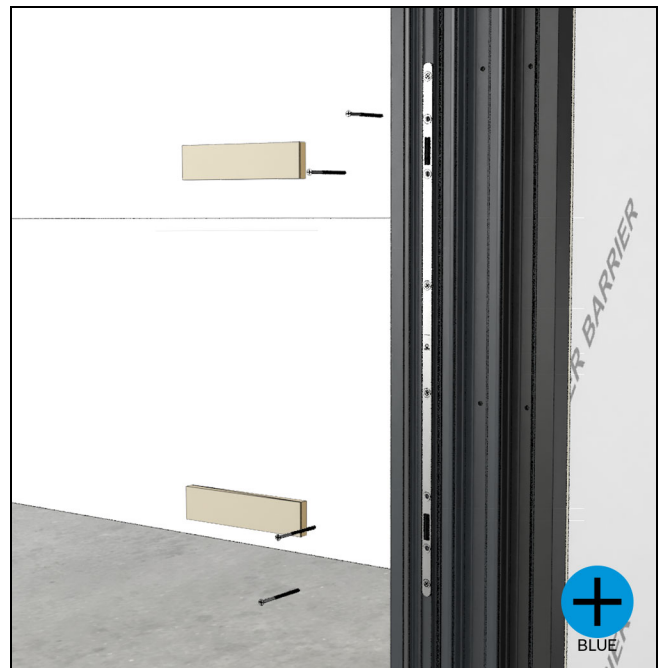

Figure 76
12. Shim and fasten with #8x3"(76) screws provided. See Figure 76.